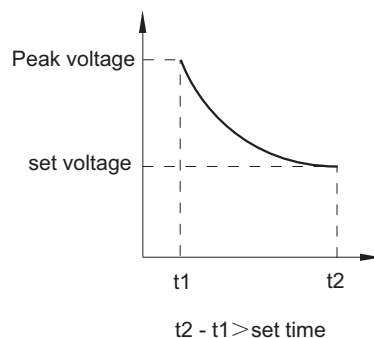

Figure 1
1.1.5 When use the capacitor to drive the coil, the recommended peak voltage is 1.5~2 times of the rated voltage, and the recommended pulse width shall not less than the relay's set time when the peak. Seen in Figure 1.